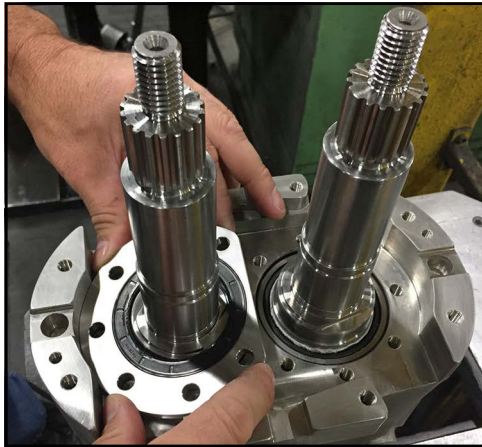

Figure 157 - Remove bearing retainer
2. Remove the bearing retainers as shown in Figure 157.